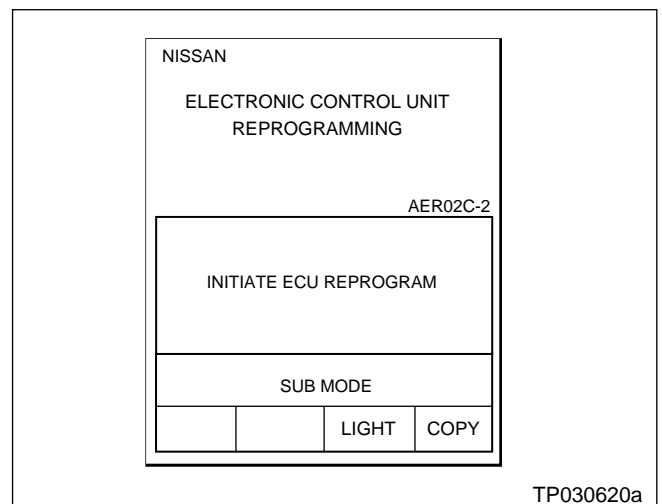

Figure 5
2. Press **SUB MODE** (see Figure 5) then: